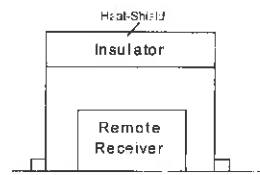

Figure 6
- 7 In order to prevent the Remote Receiver (fireplace installation only) from overheating, put a heat shield (option item) above the Remote Receiver. See Figure 6.